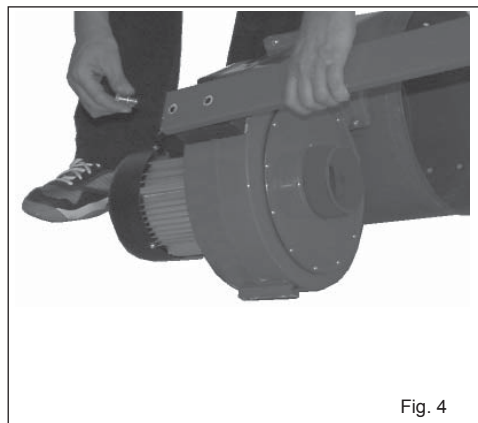

Fig. 4
- Secure the two supports of the manifold with supports onto the motor assembly using the screws, the washers and the corresponding nuts (**Fig. 4**).